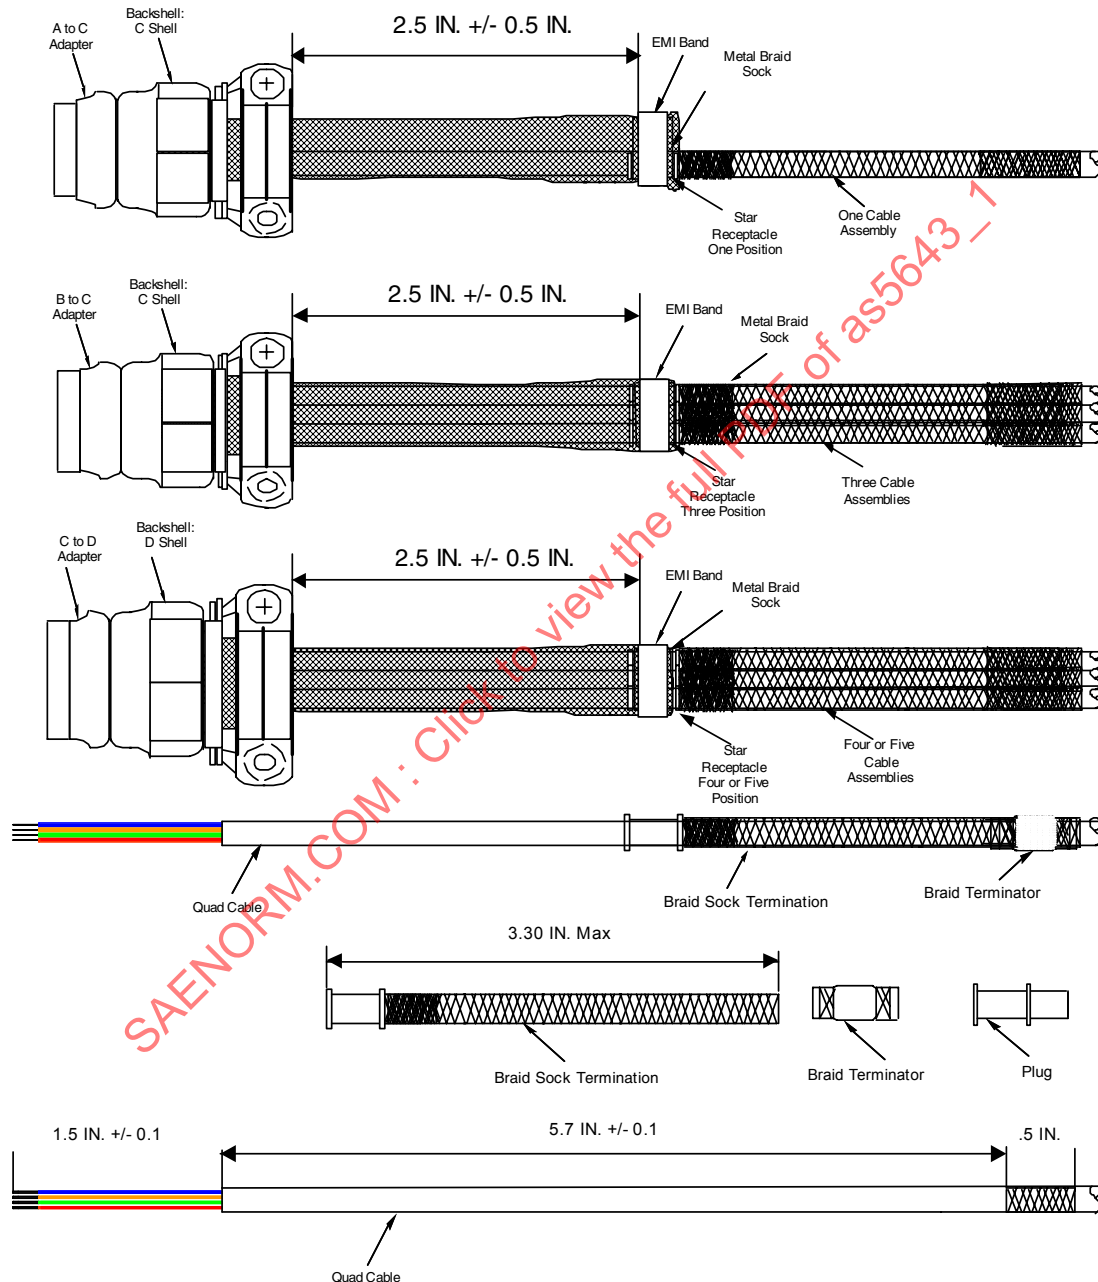

FIGURE 4 - Example Cable Termination Method for MIL-DTL-38999 Series 3 Connector With A (9), B (11), and C (13) Shell Sizes
3.1.2.1.4 MIL-DTL-38999 Cable Termination: Figure 4 depicts an example of a cable termination method for MIL-DTL-38999 Series 3 connectors with A (9), B (11), and C (13) shell sizes and one to five cable assemblies.